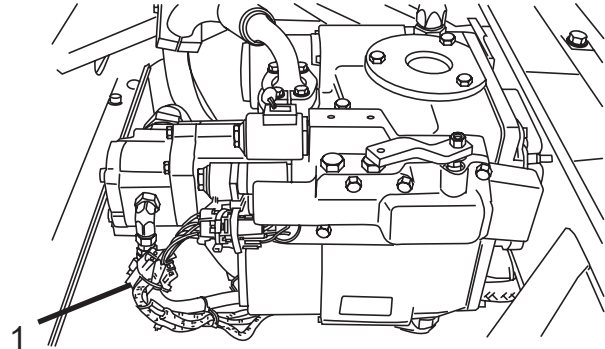

Figure 3
10. **For Traditional Controls with RE (Remote Electric Controls) Only:** Locate and disconnect the main electrical connector (Figure 3, Item 1) from the charge/discharge coils. Move the connector away from its mating connector. Proceed to Step 14.